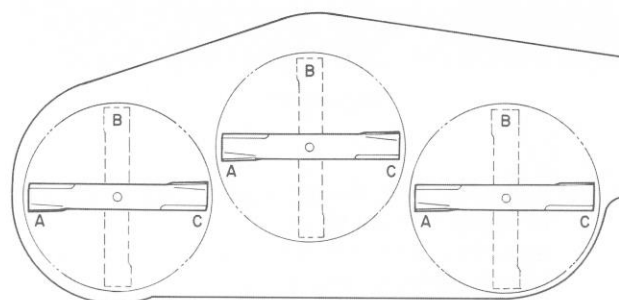
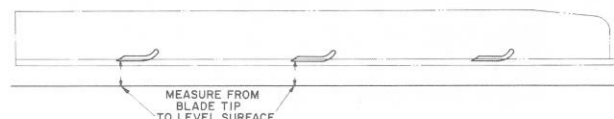

Figure 30
Figure 31
5. Position all three blades in the "A" position (Fig. 30) and measure from level surface to the bottom of the tip end of each blade (Fig. 31).
6. Note measurement attained at "A", rotate blades to "B" position (Fig. 30), measure distance of all blades to level surface and note dimensions (Fig. 31).
7. Rotate blades to "C" position, measure and note distance measured (Fig. 30, 31).